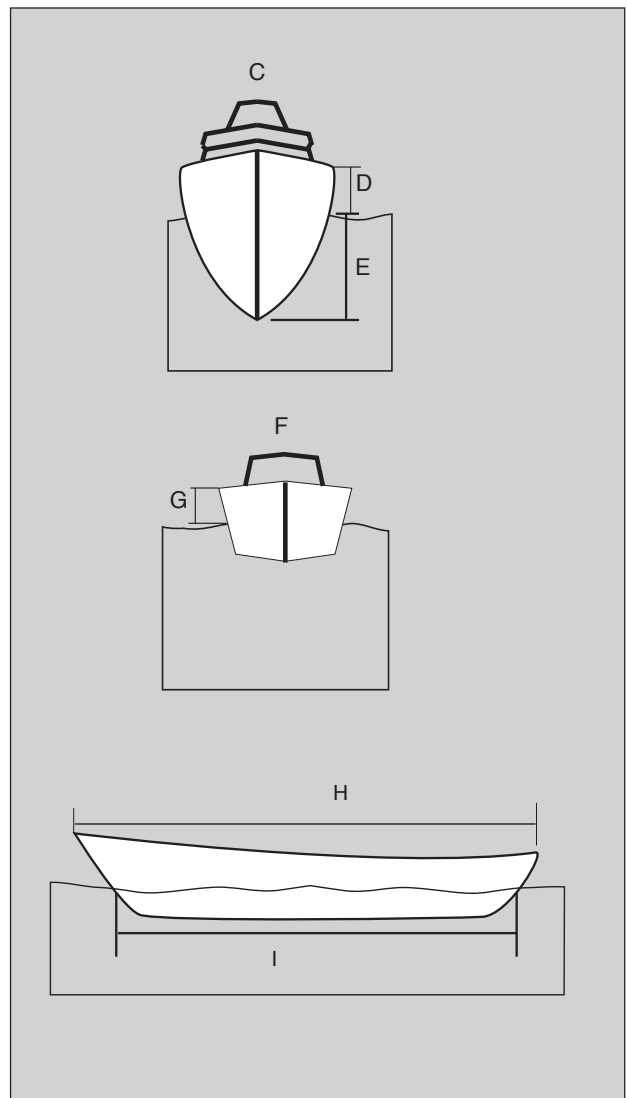

Figure 21.2 Parts of the hull
- Look at the illustrations in Figure 21.2 and identify the parts labelled C – I in your notebook.